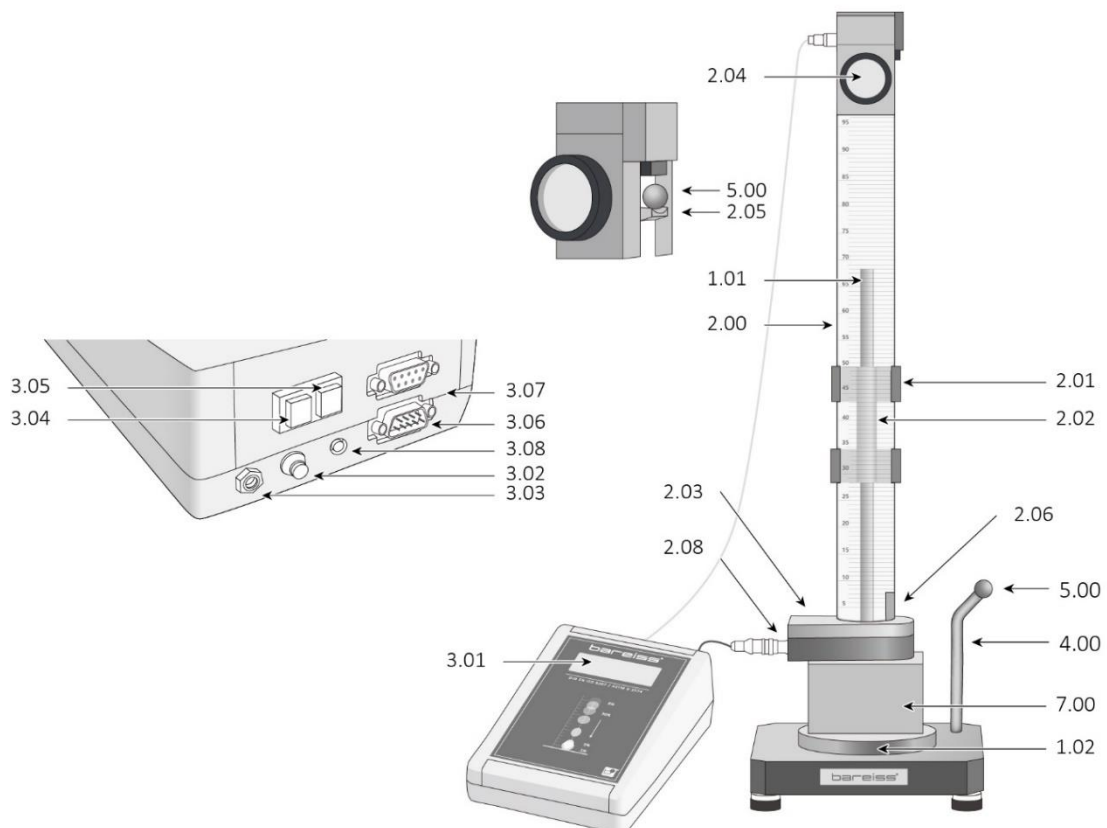

Fig. 5 Measurement
- Push the down pipe carefully down until foot part (2.03, Fig.5) is in slight contact with the sample.
The reset switch (3.08, Fig.5) will discontinue the measurement.
Thus the ball (5.00, Fig.5) is set free and falls to the sample (7.00, Fig.5).
The display (3.01, Fig5) reads:
- Take the ball out, through opening (2.06, Fig.5) using the magnet holder (4.00, Fig.5).
This median value is transmitted via interface (3.06, Fig.5).
The display (3.01, Fig.5) reads:
- Loosen clamping screw (2.02, Fig.5) of fixing bracket (2.01, Fig.5).
- Push down pipe up, until you can put sample (7.00) onto supporting table (1.02, Fig.5).
- Tighten clamping screw (2.02, Fig.5) again.
- Turn knurled wheel (2.04, Fig.5) to your left until its stop.
- Use the magnet holder (4.00) to put ball (5.00) onto holder plate (2.05, Fig.5).
- Turn the knurled wheel (2.04, Fig.5) carefully to your right until it stops.
- Take the ball out, through opening (2.06, Fig.5) using the magnet holder.
The median value is transmitted via interface (3.06, Fig.5)
The measured value is transmitted via interface (3.06, Fig.5).
- Switch the testing device on by pressing POWER switch (3.02, Fig.5).